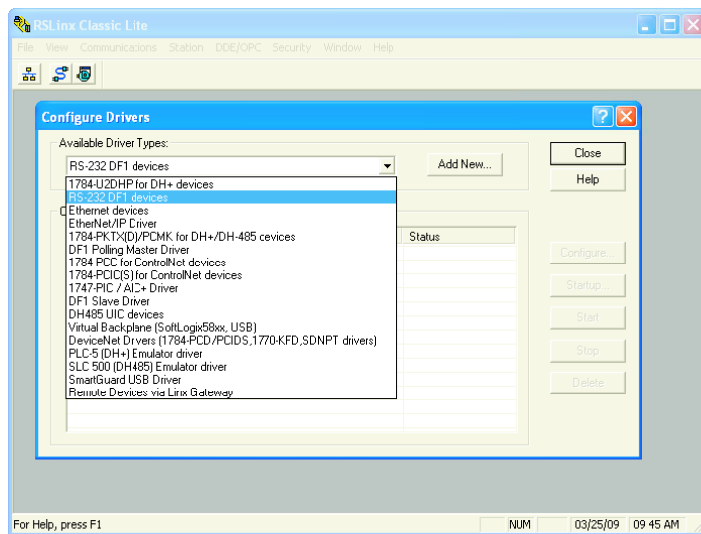

Figure 78 Configure Drivers
6. Click on 'Communications' and select 'Configure Drivers'. When the 'Configure Drivers' window opens, select 'RS232 DF1 devices' in the 'Available Drive Types' pull-down menu (Figure 78).